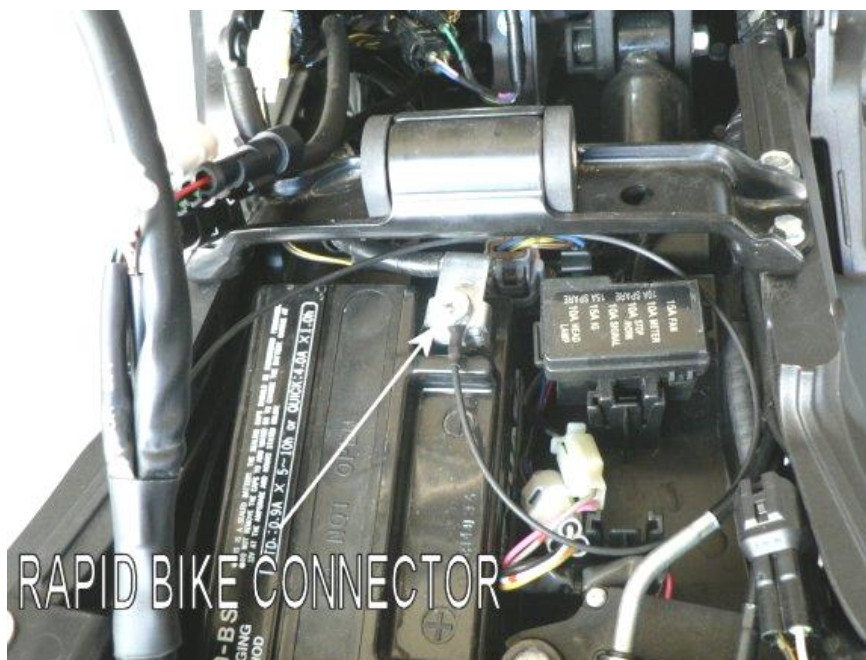

Fig.11
14. Connect the eyelet coming from the Rapid Bike wiring to the negative pole of the battery (Fig.11).